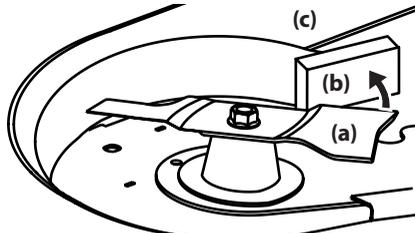

Figure 43
3. Wrap a rag around one end of the blade (a) and grasp it to prevent it from turning, or secure the blade (a) by placing a block of wood (b) between the blade (a) and the deck housing (c) (Figure 43).